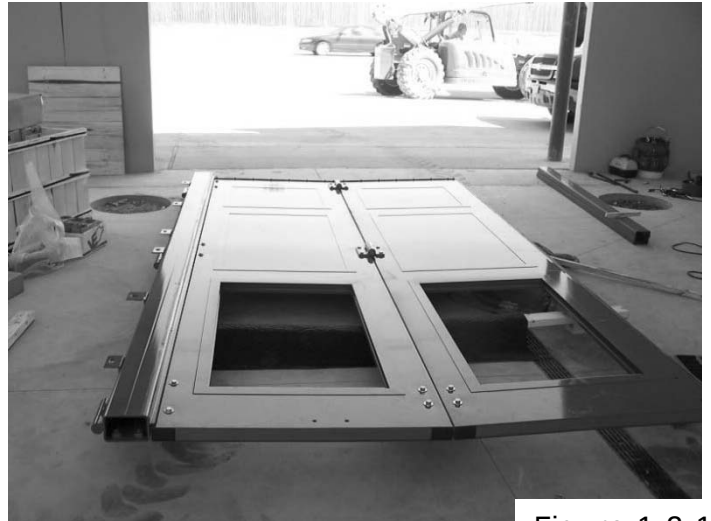

Figure 1.2.1
1. Create two stacks of lumber on the floor on the interior side of the opening and cover with towels or moving blankets. The stack furthest from the door opening should be roughly one foot taller. Lay the first assembled door half on the lumber with the jamb hinges down. (Figure 1.2.1)